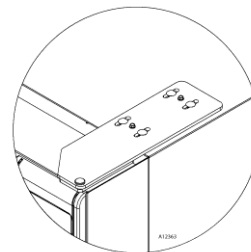

**Fig.4**
Open the door at least 90 degrees. While someone holds the door in place to prevent bending or damage to the bottom pivot, remove the three (3) 5/32" hex socket/Allen screws fastening the top hinge assembly to the top of the door (see Fig. 4). Once these screws are removed the door needs to be lifted vertically off the bottom hinge. The bottom hinge pin rests on nylon washers to provide proper door height and smooth operation - retain these washers for reassembly.